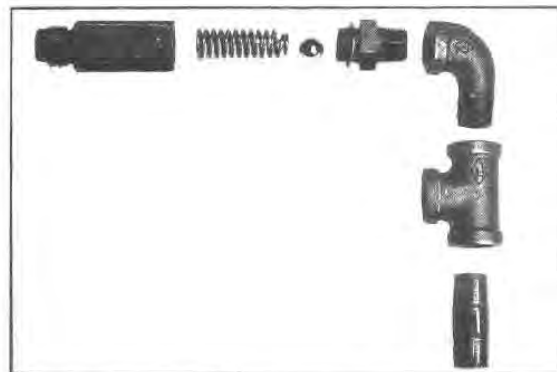

Fig. G88 — Charge Pressure Control and Safety Check Valve Components
59. Using the charge pressure control and safety check valve and associated parts, as shown in Figure G88, proceed with the assembly in the following sequence :—